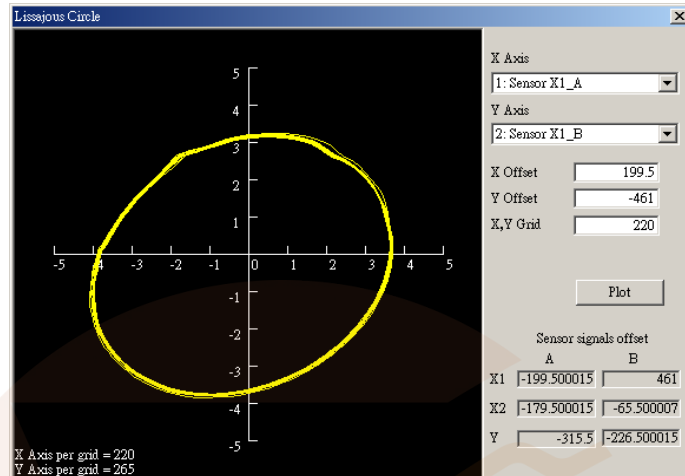

Fig. 18 Lissajous Circle
- **Lissajous** : Lissajous Circle is for displaying the phase A and B sensor signals. Phase A is taken as horizontal axis, while phase B vertical. In Setup Capturing, Data1 and Data2 must be set as physical quantities between 1 to 6. So it is possible to check whether sensor signals are OK. Click Lissajous to show the circle. Fig. 18 is an example of A, B phases for X1 sensor. At the right side of Fig.18: